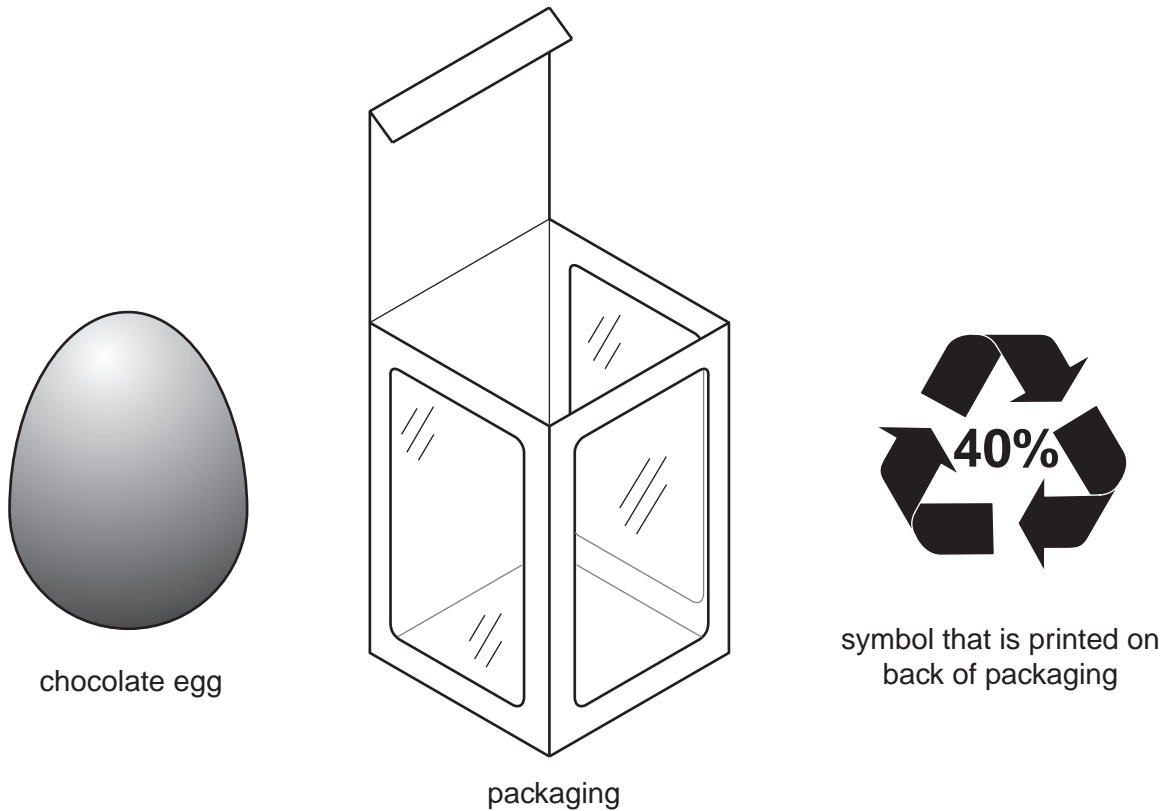

Fig. 4
- 4 Fig. 4 shows a design for packaging a chocolate egg and a symbol that is printed on the back of the packaging.